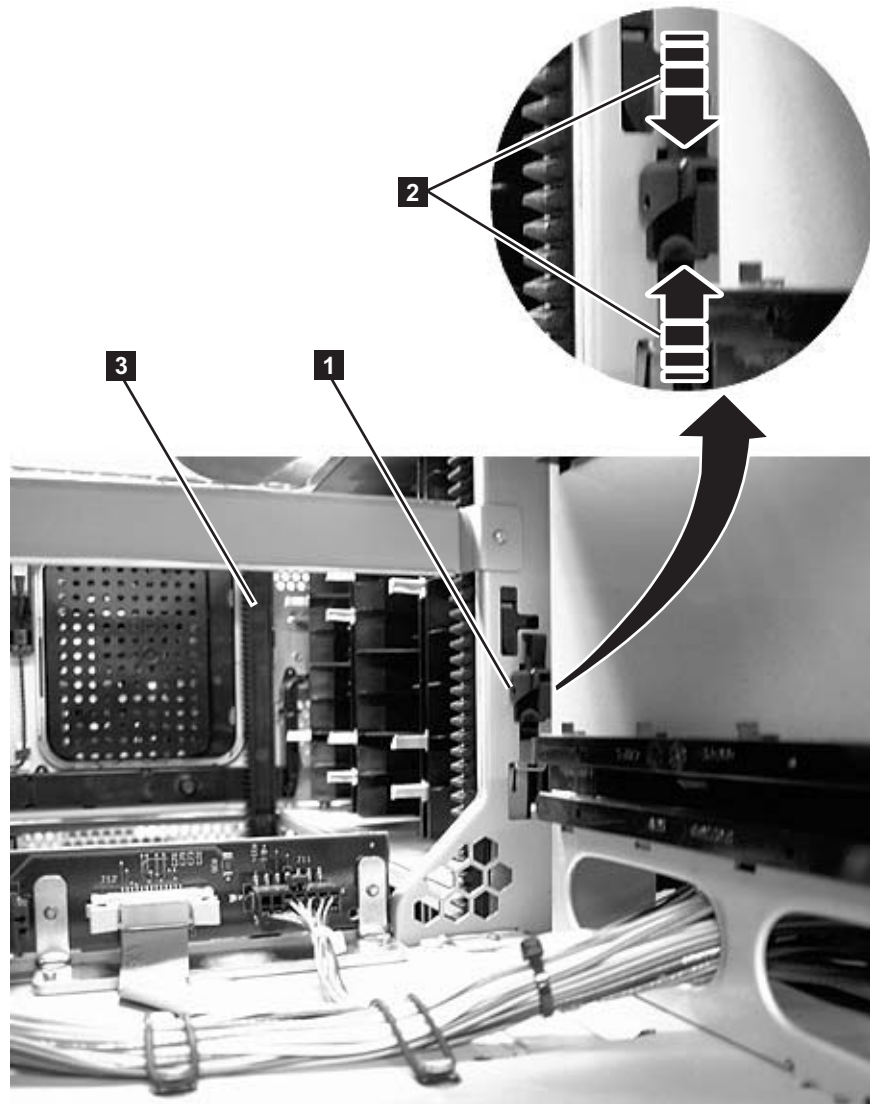

Figure 11-16. Gear rack
In order for the picker to move from one unit to the next in a multi-module library, the front (**3** in Figure 11-16 on page 11-23) and rear (**1** in Figure 11-16 on page 11-23) gear racks in the control module must be properly aligned with the gear racks in the expansion module.
Verify that the front (**3** in Figure 11-16) and rear (**1** in Figure 11-16) gear racks are properly aligned and positioned.
- In a control module, verify that the gear racks are in the down position. Pinch the gear rack locking mechanism (**2** in Figure 11-16) and push the gear rack down. Ensure that the lock is not engaged in the hole in the frame.
- Verify that the gear racks are in the down position. Pinch the gear rack locking mechanism (**2** in Figure 11-16) and push the gear rack down. Ensure that the lock is not engaged in the hole in the frame.
1. Slightly push up and pinch the gear rack locking mechanism (**1** in Figure 11-16 on page 11-23) to unlock the gear rack in the control module.
2. While pinching the gear rack locking mechanism (**2** in Figure 11-16 on page 11-23), push the gear rack down until it aligns with the gear rack in the expansion module, then release your hold on the locking mechanism.